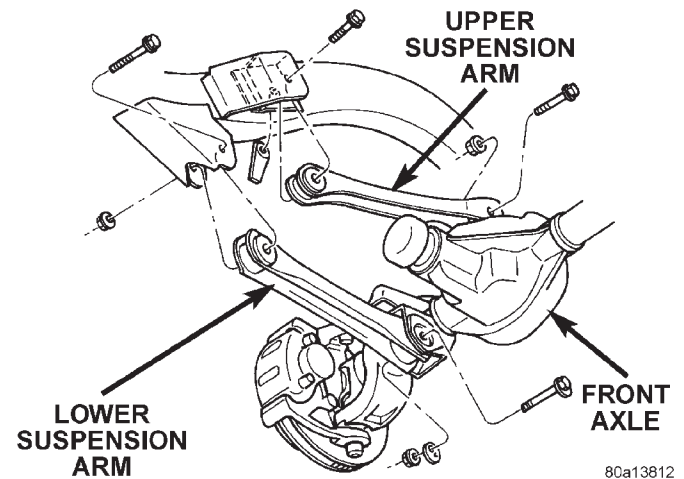

Fig. 3 Upper & Lower Suspension Arms
- (4) Remove the lower suspension arm nut, cam and cam bolt from the axle (Fig. 3).
- (5) Remove the nut and bolt from the frame rail bracket and remove the lower suspension arm (Fig. 3).
- (1) Raise and support the vehicle.
- (2) Remove the upper suspension arm nut and bolt at the axle bracket (Fig. 3).
- (3) Remove the nut and bolt at the frame rail and remove the upper suspension arm.